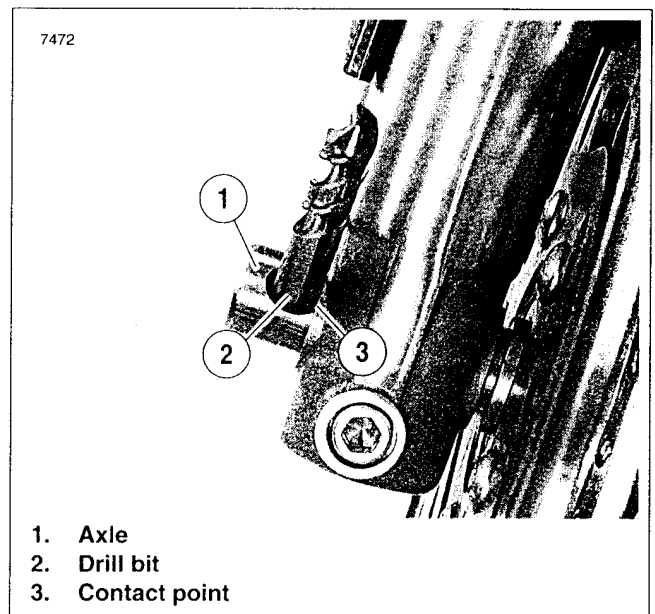

Figure 2-9. Dual Brake Disc Alignment
4. If servicing a vehicle with a single front brake caliper, advance to the next step. On models with dual front brakes, align calipers to brake discs. See Figure 2-9.
- b. Insert 7/16 in. drill bit (2) as far as it will go into hole in axle (1).
- c. Position fork leg against edge of drill bit. Contact point (3) must have edge of drill bit touching the edge of fork leg.